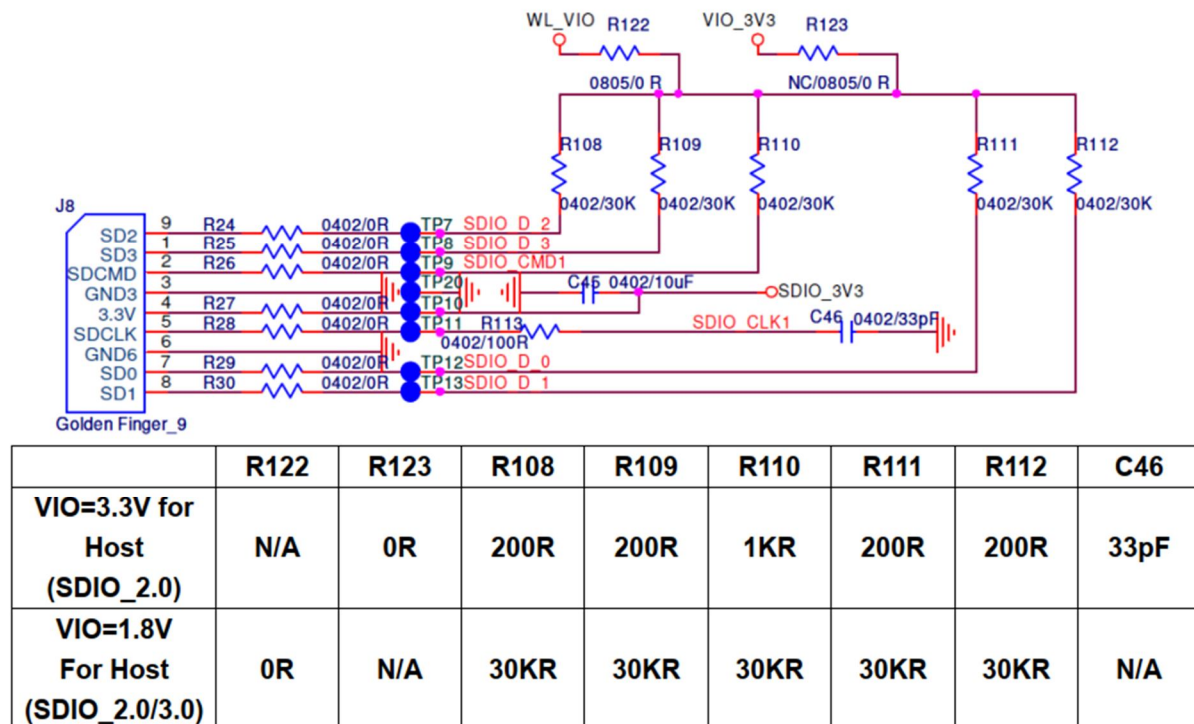

Figure2. WiFi verification connection interface to Host SDIO as using SDIO2.0
- ❖ Refer to Figure2 SDIO pin definition connects the J8 interface of AP12611_M2 evaluation board to Host SDIO control interface.